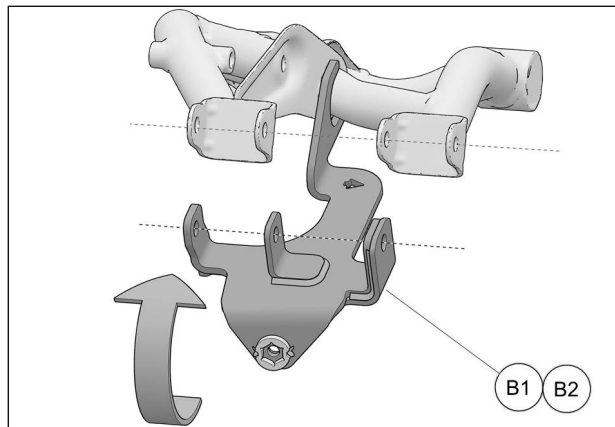

Fig. 6
- Rotate bracket (B1-B2) upward to align its holes with the holes in the suspension arm. See Fig. 6